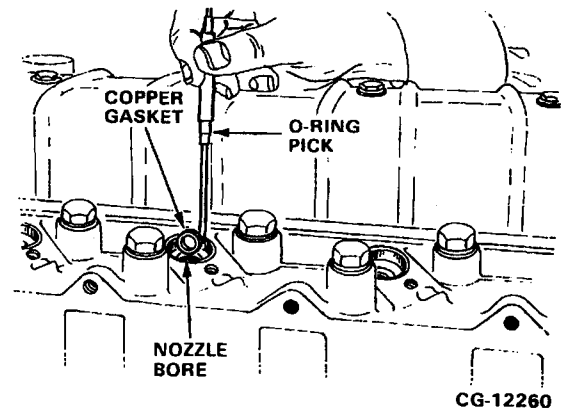

Figure 12.5. Remove Copper Sealing Gasket from Bore
6. Remove the copper nozzle gaskets from the nozzle bores using an O-ring pick. Refer to Figure 12.5.